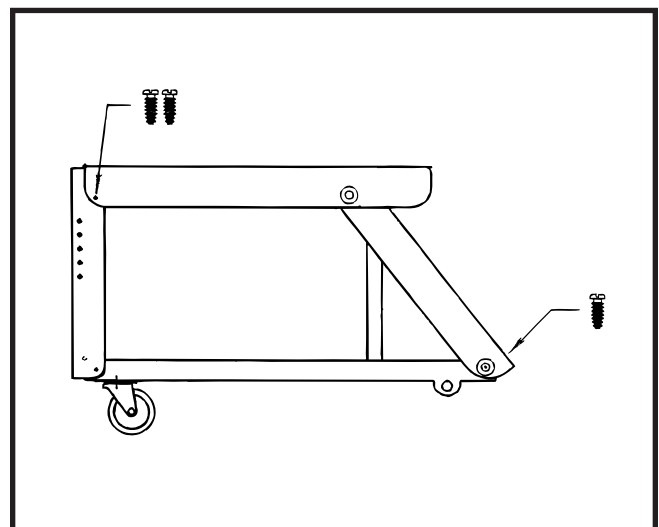

FIGURE 5
**STEP 6 (SEE FIGURE 5)**
**STEP 7 (SEE FIGURE 5)**